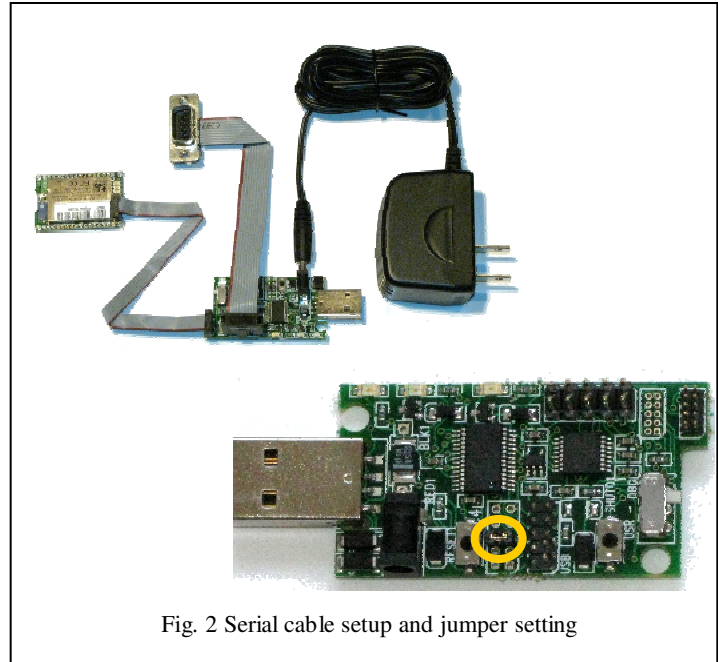

Fig. 2 Serial cable setup and jumper setting
4. Move the jumper from USB to serial mode. The jumper should be inline with the length of the evaluation board (See figure 2)